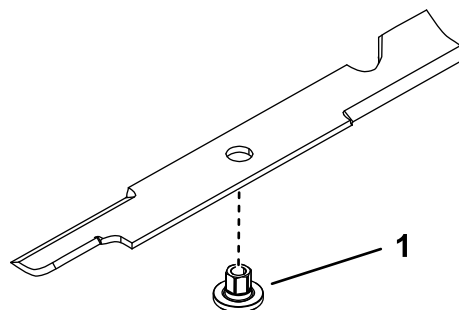

Figure 112
1. Install the bushing through the blade with the bushing flange on the bottom (grass) side of the blade (Figure 112).